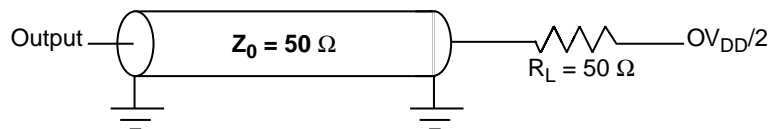
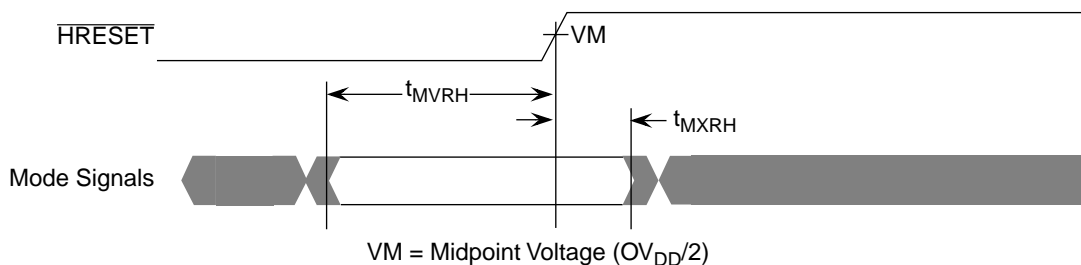

Figure 4. AC Test Load
Figure 5. Mode Input Timing Diagram
Table 9 provides the processor bus AC timing specifications for the MPC7450 as defined in Figure 4 and Figure 5. Timing specifications for the L3 bus are provided in Section 1.5.2.3, “L3 Clock AC Specifications.”
- All input specifications are measured from the midpoint of the signal in question to the midpoint of the rising edge of the input SYSCLK. All output specifications are measured from the midpoint of the rising edge of SYSCLK to the midpoint of the signal in question. All output timings assume a purely resistive 50-Ω load (see Figure 4). Input and output timings are measured at the pin; time-of-flight delays must be added for trace lengths, vias, and connectors in the system.
- The symbology used for timing specifications herein follows the pattern of $t_{(\text{signal})(\text{state})(\text{reference})(\text{state})}$ for inputs and $t_{(\text{reference})(\text{state})(\text{signal})(\text{state})}$ for outputs. For example, t_{IVKH} symbolizes the time input signals (I) reach the valid state (V) relative to the SYSCLK reference (K) going to the high (H) state or input setup time. And t_{KHOV} symbolizes the time from SYSCLK(K) going high (H) until outputs (O) are valid (V) or output valid time. Input hold time can be read as the time that the input signal (I) went invalid (X) with respect to the rising clock edge (KH) (note the position of the reference and its state for inputs) and output hold time can be read as the time from the rising edge (KH) until the output went invalid (OX).
- The setup and hold time is with respect to the rising edge of $\overline{\text{HRESET}}$ (see Figure 5).
Figure 4 provides the AC test load for the MPC7450.
Figure 5 provides the mode select input timing diagram for the MPC7450.